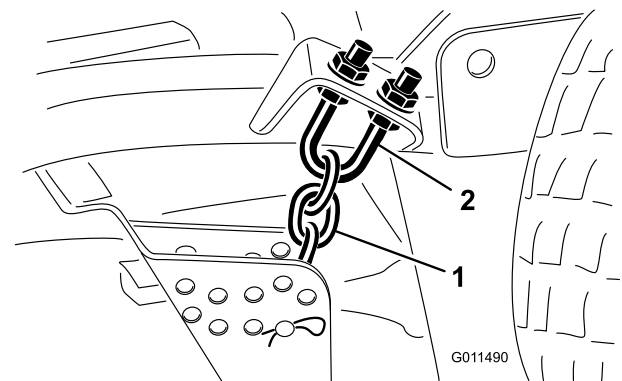

Figure 77
1. Loosen the jam nuts at the top or bottom of the height-of-cut chain U-bolt (Figure 77).